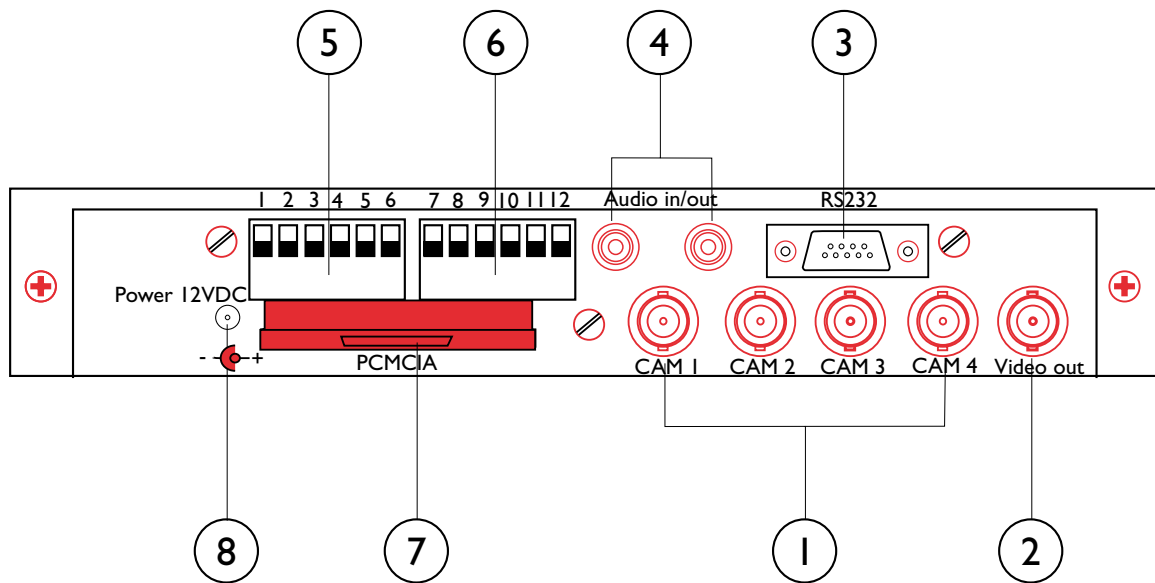

Figure 1. Rear view of LTC 4304 Transceiver
- PCMCIA to RS-232 Converter is used (Manufacturer: Socket Communications Inc.; Part number: SL0700-004. Internet: www.socketcom.com). (Fig. 1. item 7). This port will be the communication port.
- Pan/Tilt/Zoom uses the standard RS-232 port (Fig. 1. item 3)